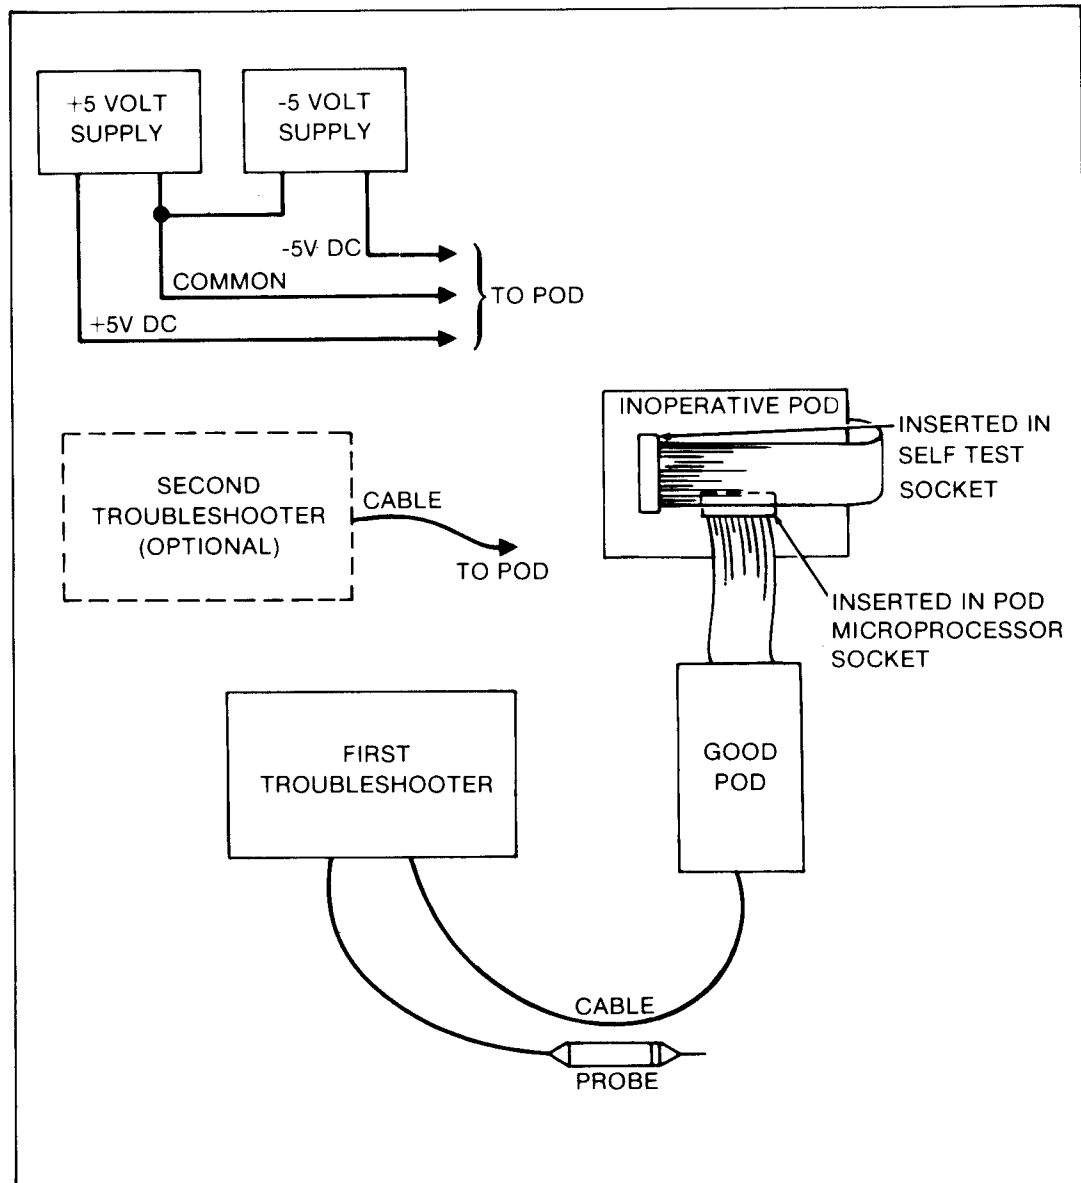

Figure 6-2. Troubleshooting an Inoperative Pod
3. Remove the pod microprocessor from its socket and install the ribbon cable plug from the good pod in the microprocessor socket (as shown in Figure 6-2).
5. If a second troubleshooter is available, connect the pod cable plug from the inoperative pod to the second troubleshooter to supply the inoperative pod with power. If a second troubleshooter is not available, connect a +5V dc (2A) power supply and a -5V dc (200 mA) power supply to the inoperative pod as shown in Figure 6-2. An easy place to make the power connections is at the pins on the connectors that connect the two pcbs together. Refer to the schematic diagrams in Section 8 for the proper pins for connection.